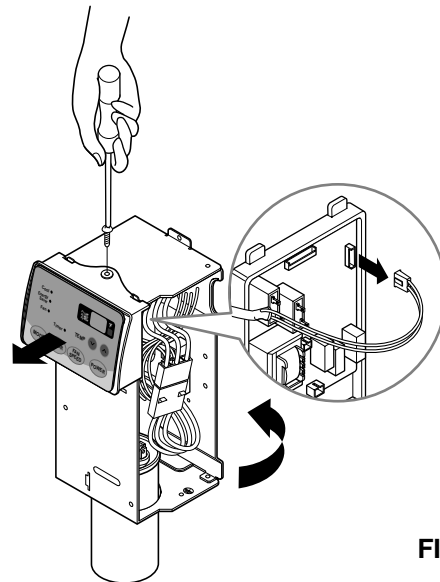

FIG. 14
4. Remove the thermostat. (See Fig. 14)